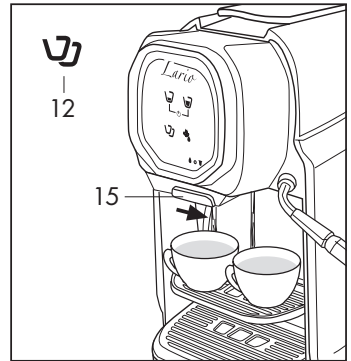

Fig. 11
For double coffee preparation, move selector (15) to the right (Fig.11)
- after moving selector (15) to the right, place 2 cups on the support (Fig.11)
- Insert the capsule as indicated on the previous page and press symbol (12) (Fig.11)
- For models without selector, after placing the two cups on the support press (12) (Fig.11)